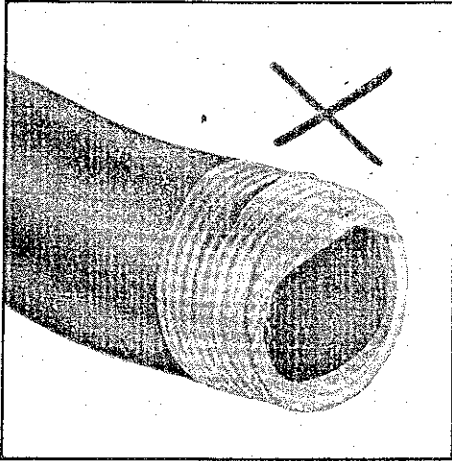
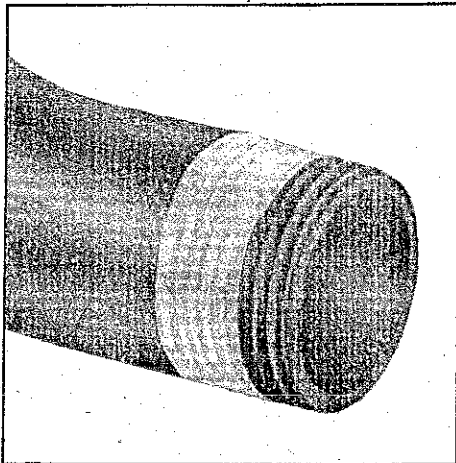
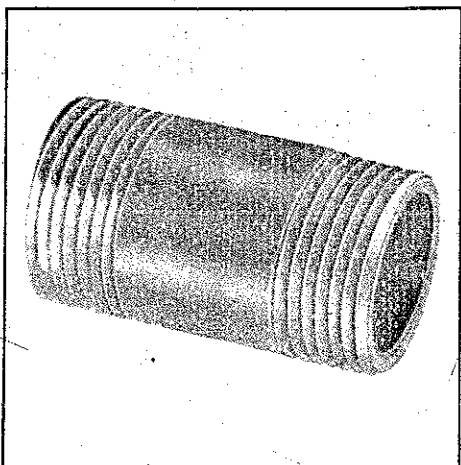

Fig. 1.
Fig. 2.
Fig. 3.
8. While the Valves are tightened in with pipe connections, the tightening material like TEFLON-RIBBONS when used-happen to overlap as shown in Fig. 1. The Teflon Ribbon cuts while tightening, will be carried away into the Valves, where such refuse might cause a "Break-down", Hence, it is recommended, not to cover first two thread-pitches, Fig. 2. Make sure that the threaded length is not longer than STANDARD LENGTH, Fig. 3, for, tubing and piping with too much thread may touch the interior parts of the Valves when screwed and tightened-in. It is also important not to use our Valves to pull together two tubes cut too short. It is advised to make new tubings, for, the Valves will respond this with longer life. Please try to bring the tube to the Valves in a curve. In case of stress due to change in Temperature, this arrangement will have no ill-effect on our Valves. Also please do not use these Valves as a MOUNTING-BASE for Cables or Tube/Pipe Clamps. We wish to impress upon you that, no additional holes are to be drilled on our Valves, for, your EACH VALVE is made by us SPECIALLY FOR YOU, and if you drill holes on these Valves, you will perhaps reach to their interior, sooner than you presume.